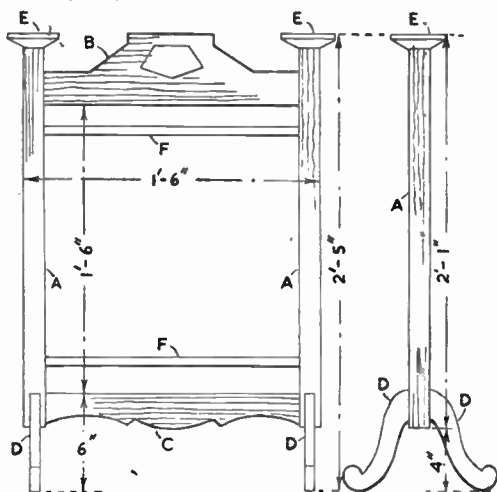
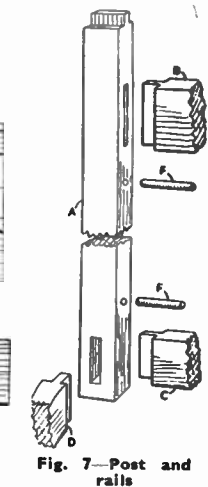

Fig. 2—Front view showing all parts Fig. 3—Side view
Fig. 7—Post and rails
At Fig. 2 we see the front view of the frame or stand, giving the main dimensions to which the various rails, etc., are to be cut. The main uprights (A) of the frame may be 1in. square in section, and the cross rails (B) and (C) framed with mortise and tenon joints into them. In the enlarged detail (Fig. 7) the actual mortises and tenons are shown of both rails, drawn apart to simplify the constructional working.
Note how the tenon will be set out at the top end of the leg. Each tenon should be $\frac{1}{2}$ in. wide and $\frac{3}{8}$ in. deep to meet in the centre of the uprights (A). The detail, Fig. 7, shows the leg tenon ready to be inserted into its mortise.
The work having been thus far carried out, the parts of the screen which have been framed up should be cleaned and fitted together temporarily. It will be necessary to cut small tenons—called 'stub tenons', which should be $\frac{1}{2}$ in. long at the top ends of uprights (A) for fixing on the shaped wood caps (E). Four holes must be bored also in the inside faces of the uprights to take the ends of the turned wood rods as (F) in Fig. 7 and in Fig. 2.